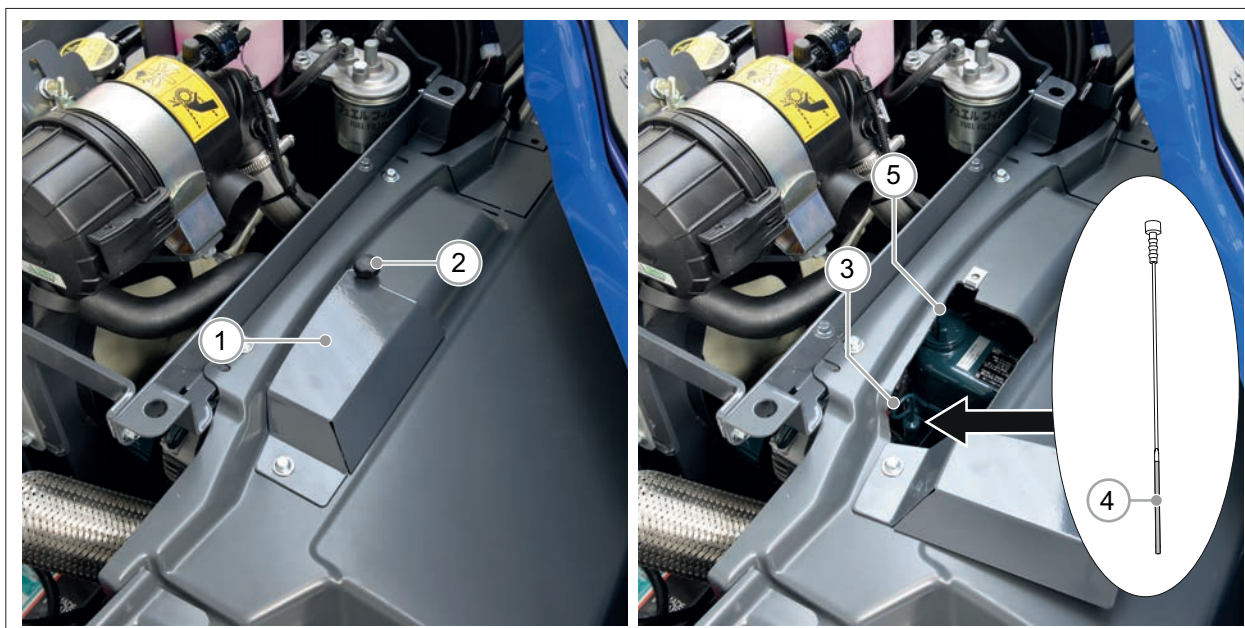

FIG. 49
- 4) Unscrew the knob (FIG. 49 - Ref. 2) to open the cover (FIG. 49 - Ref. 1).
- 5) Pull out the dipstick (FIG. 49 - Ref. 3) and look for both the full and add oil lines (FIG. 49 - Ref. 4). The correct oil level is between those two lines.
- Open the cap of the engine oil filler (FIG. 49 - Ref. 5);